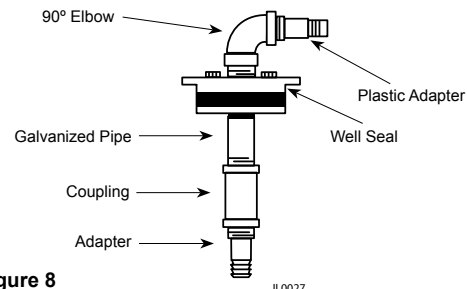

Figure 8
- b. On captive air tank installation, assemble as illustrated (See Figure 8).